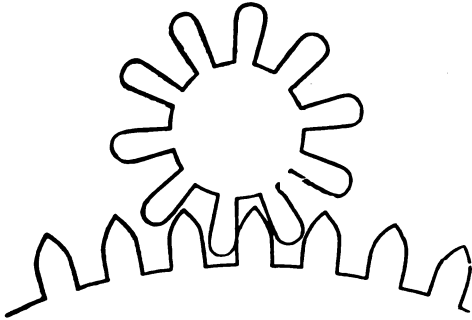
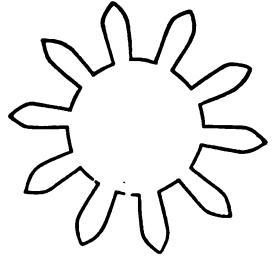

Fig. 3.
Fig. 4.
The pinion leaves are finished with a semi-circular piece projecting beyond the pitch circle as seen in Fig. 3. They would work without if properly pitched, but would not be safe as the depth becomes shallow from the wearing of the holes. Some prefer a Gothic-shaped projection like Fig. 4, which is of epicycloidal form, the same as the wheel teeth. This is a very suitable form if the pinions are low numbered, for, although with it the action takes place more before the line of centres, a safer depth is ensured.
**TABLE 2.—FOR PINIONS WITH CIRCULARLY ROUNDED LEAVES LIKE FIG. 3: THE PITCH DIAMETER BEING = 1.**
**TABLE 3.—FOR PINIONS WITH EPICYCLOIDAL ADDENDUM LIKE FIG. 4; THE PITCH DIAMETER BEING = 1.**